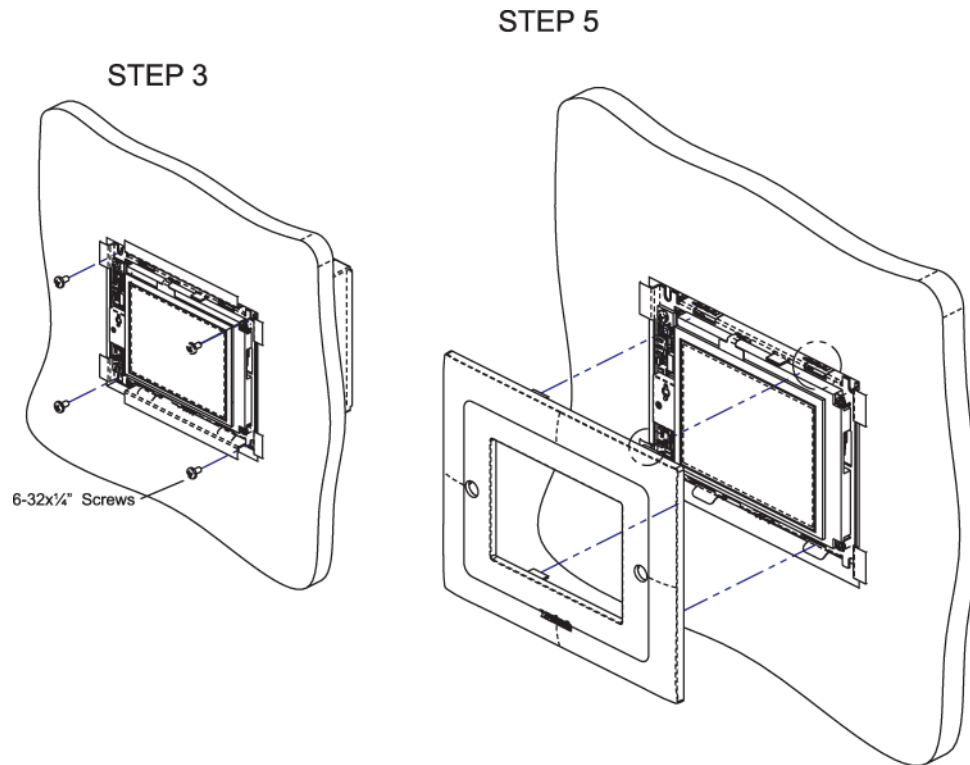

Figure 12 – Installing SPLCD into Back Box
5. Install front **Bezel** making sure the two **alignment tabs** are properly aligned and the **Bezel Magnets** 'attach' to the SPLCD and are holding the **Bezel** in place. (Figure 12)